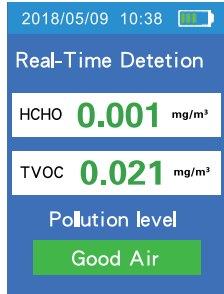

Figure 8
8. Real-time measurement (Figure 8)